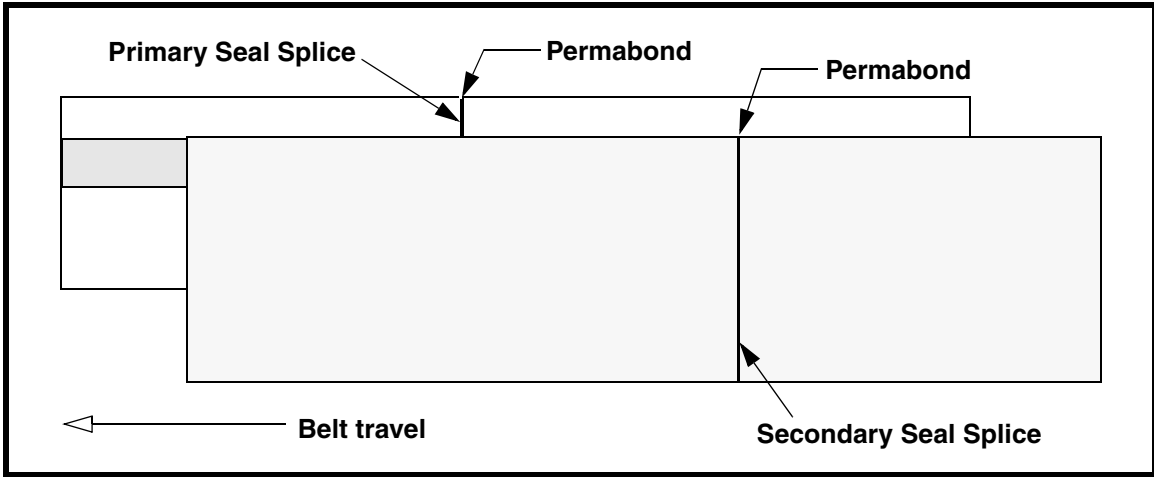

Figure 5. Staggering Splices
- d. Stagger primary seal splice and secondary seal splice so splices are not located at same point (see Figure 5).